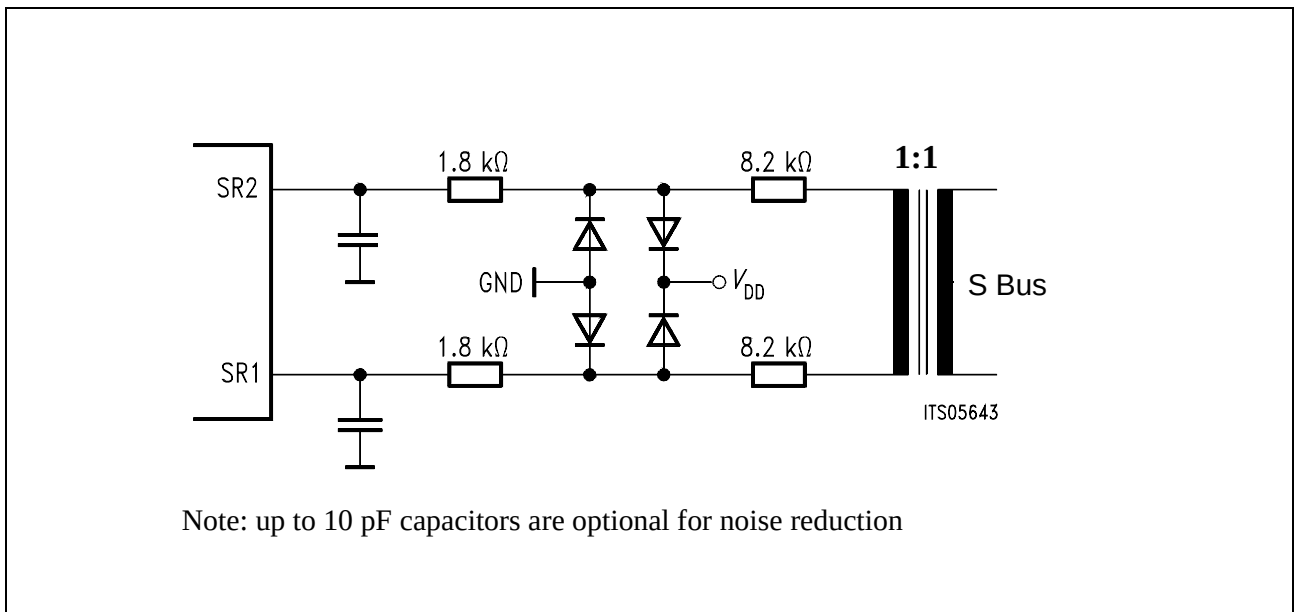

**Figure 30 External Circuitry for Symmetrical Receivers**
**Figure 30** illustrates the external circuitry used in combination with a symmetrical receiver. Protection of symmetrical receivers is rather simple.